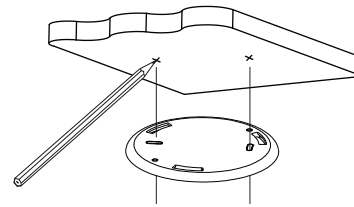

Figure 6
- 2, According to the base in the installation position, with a pencil in the base of the two holes to do the installation hole punching mark (Figure 6);